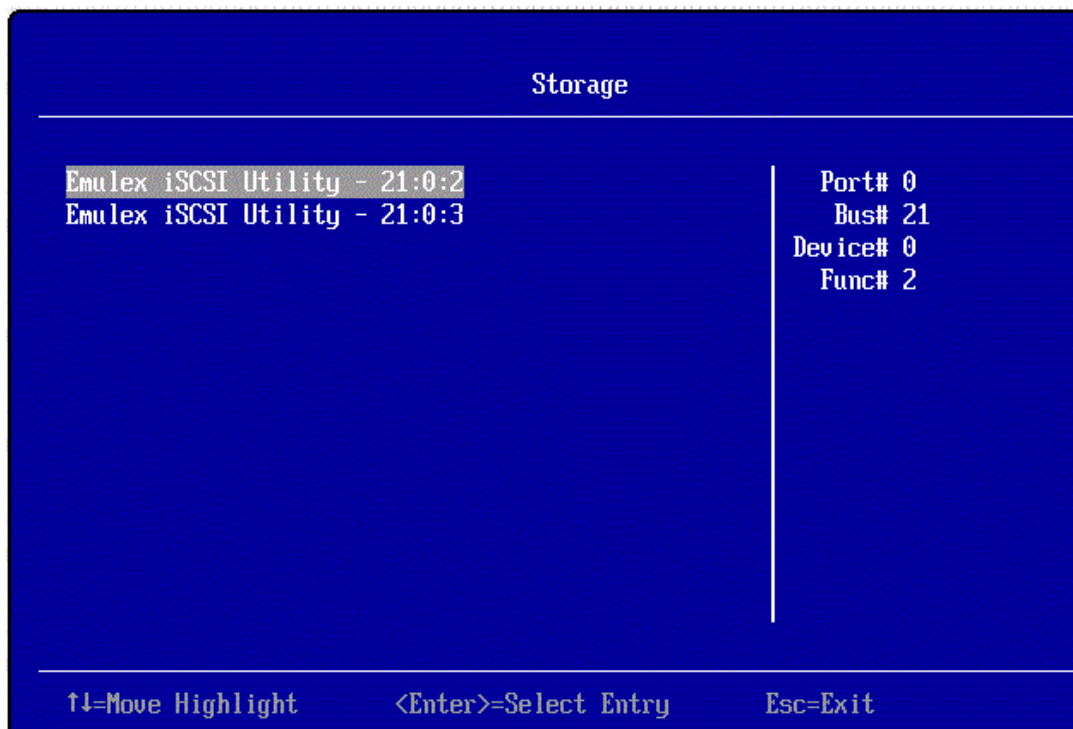
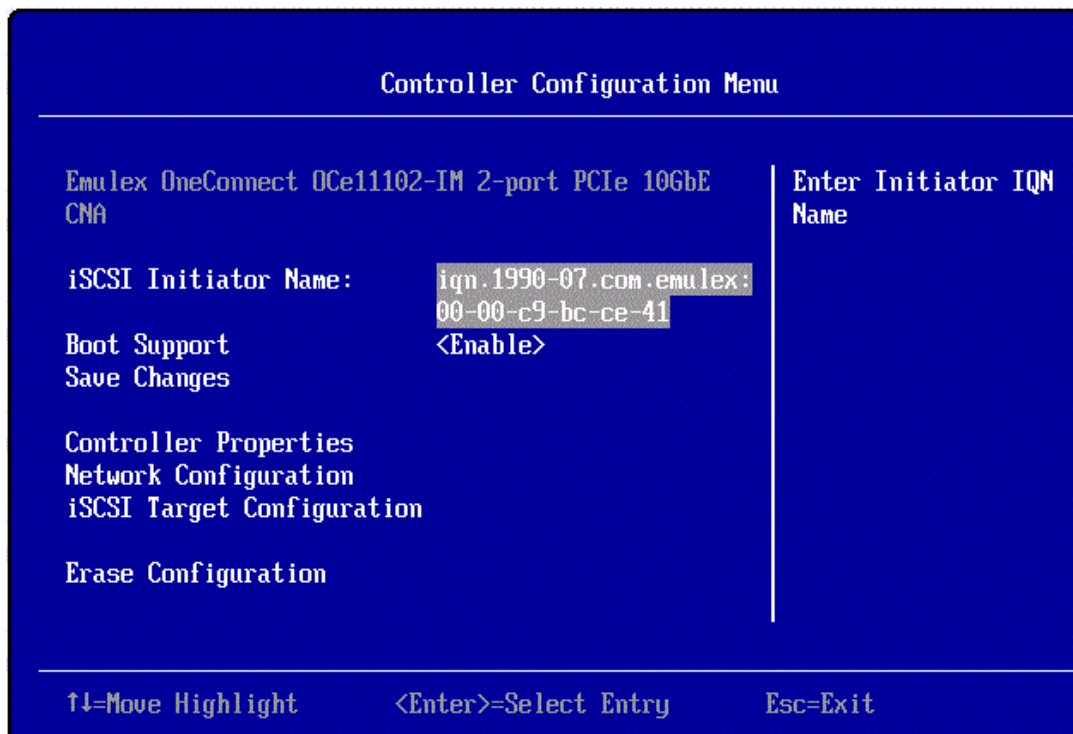
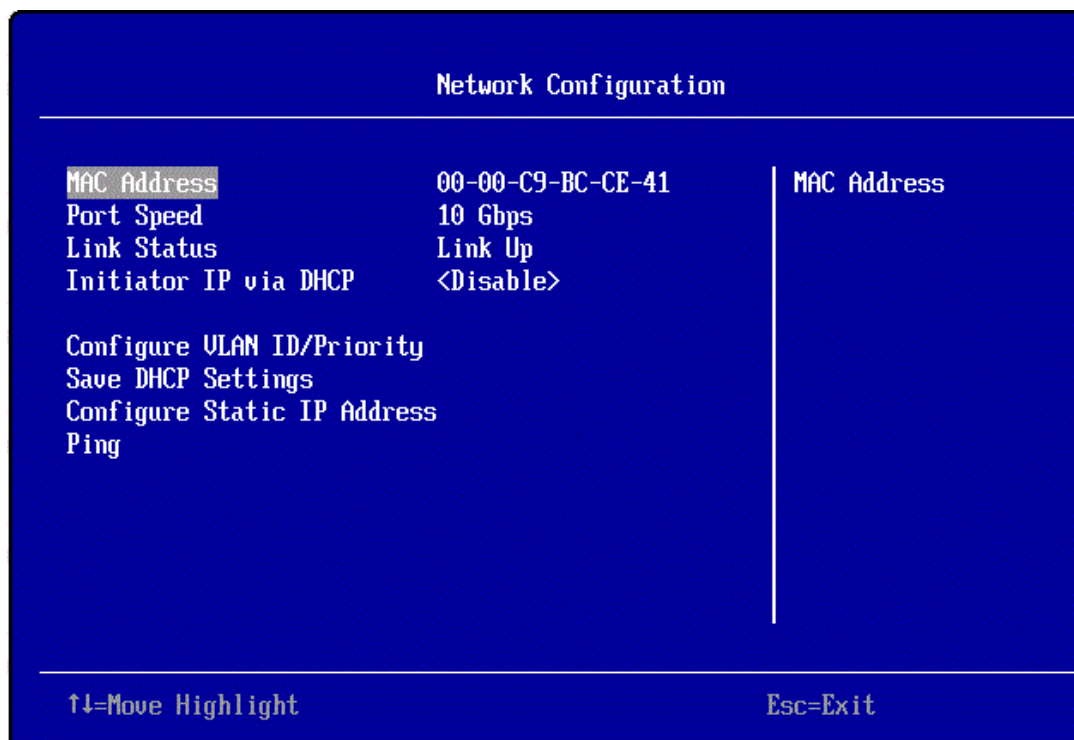

Figure 11-1 Storage Screen
Figure 11-2 Controller Configuration Menu Screen
Figure 11-5 Network Configuration Screen
1. From the Storage screen (Figure 11-1), select the **Emulex iSCSI Utility** for a particular function and press **<Enter>**. The Controller Configuration Menu is displayed.
1. From the Storage screen (Figure 11-1), select the **Emulex iSCSI Utility** for a particular function and press **<Enter>**. The Controller Configuration Menu is displayed (Figure 11-2).
1. On the Controller Configuration menu (Figure 11-2), select **Network Configuration** and press **<Enter>**. The Network Configuration screen is displayed.
1. On the Controller Configuration menu (Figure 11-2), select **Network Configuration** and press **<Enter>**. The Network Configuration screen is displayed (see Figure 11-5).
4. On the Controller Configuration menu (Figure 11-2), select **iSCSI Target Configuration** and press **<Enter>**. The iSCSI Target Configuration screen shows the discovered targets.